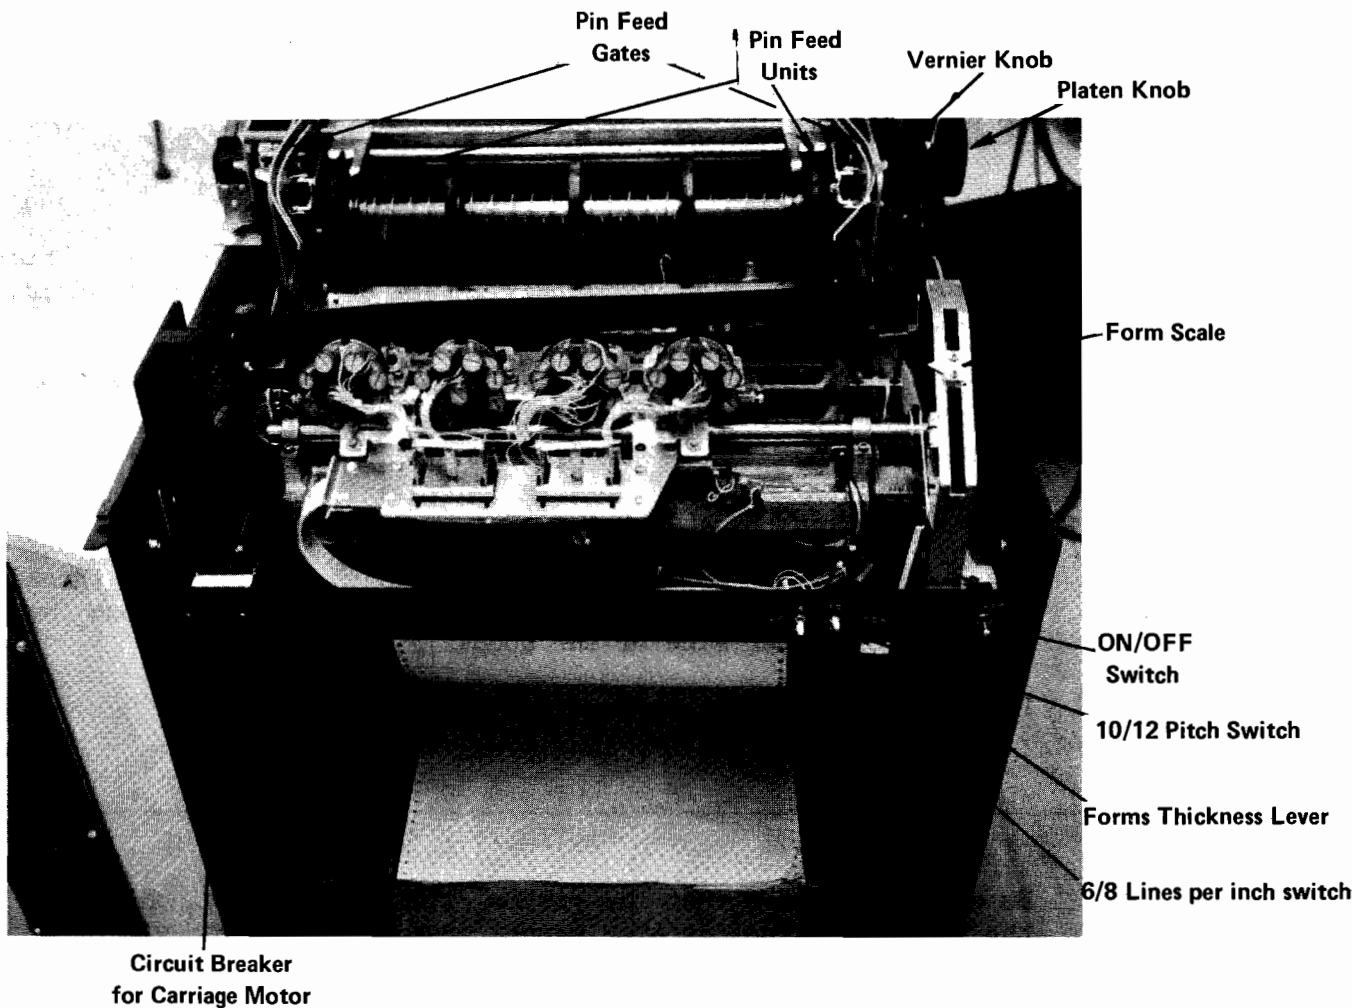

Figure 1.3 The Model 2261W Line Printer, Definition of Terms
2. Push continuous-form pin-feed paper into the slot in the bottom of the printer until it comes out between the pinfeed mechanisms (see Figure 1.3). If the forms are fed from a carton, be sure the flaps or any ragged edges on the carton do not snag the forms.
2. Open the front panel of the Printer and find the Forms Thickness Lever (see Figure 1.3).